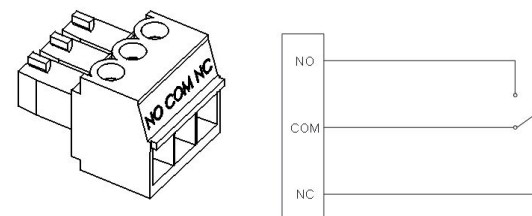

Figure 4 - Remote Contact Connections
3. Remote Annunciation: Electrically isolated Form C dry contacts provide remote monitoring capability. The removable plug accepts #16 - #30 AWG wire. The continuous current rating for the remote indicator is 1A @ 125 VAC maximum. Strip the wire 1/4" (7mm), and torque the terminal screw 1.8 lb-in (0.2 Nm). The terminal is labeled with Normally Open (NO), Normally Closed (NC) and Common (COM). Install signal wiring as shown in Figure 4.